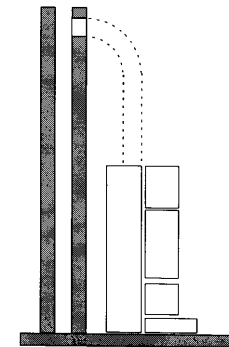

fig. 1
- If the drawing height is nevertheless shorter than 4 metres, a vertical one-metre high exhaust pipe must be fitted to the stove before connection to the chimney (figure 1).